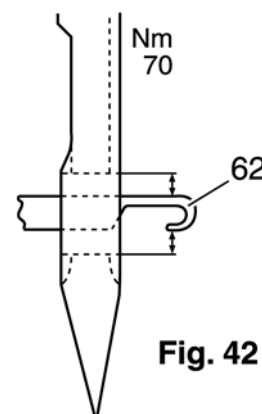

Fig. 42
With the threader key pushed fully down, prong 62 must pass through in the center between the top and bottom edge of the needle eye of a needle size Nm 70 (fig. 42).
- Push the complete threader bar frame 67 either upwards or downwards until prong 62 has the same clearance to the top and bottom edge of the needle eye (fig. 42).